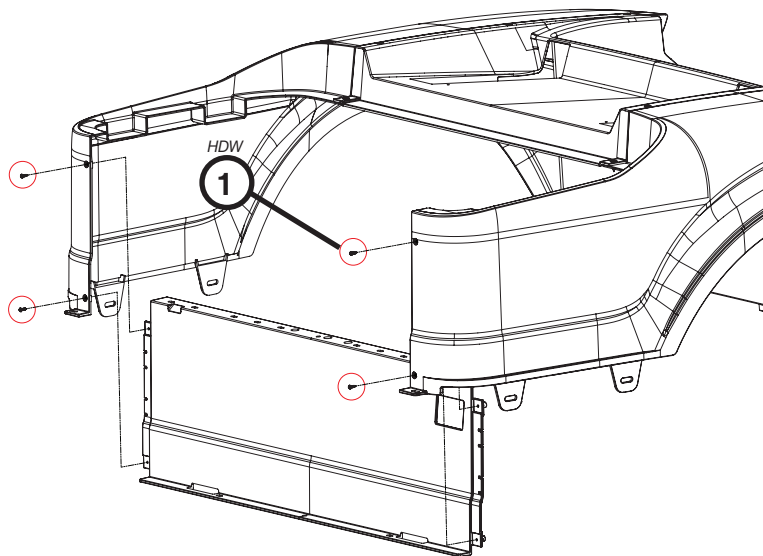

Fig. 8
Install the front panel of body to the side panels using four (4) M4 self-tapping screws (HDW 1) using T20 socket as shown in Fig 8.